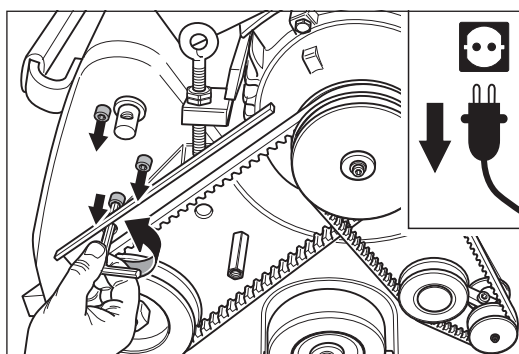

Fig. 70 Hold on the drive unit and remove the three screws **at the same time**.
- 8 Hold on the drive unit and remove the three screws **at the same time** (fig. 70)! Therefore the drive unit cannot fall on the sanding drum.